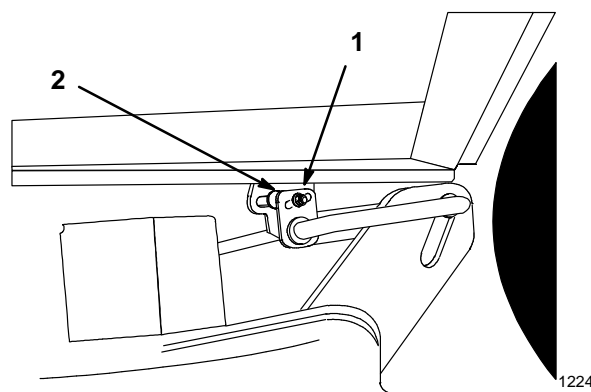

Figure 12
4. Loosen adjustment bolt on one side and rotate hanger bracket to raise or lower mower (Fig. 12).